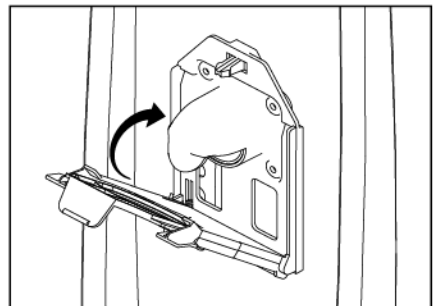

Fig. 4
- Push the top of the bag collar upward until the collar snaps into place on the vacuum (Fig. 4).